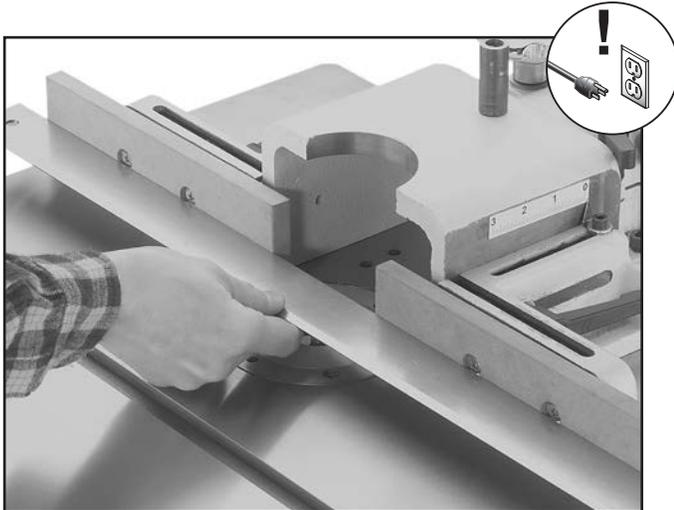

Figure 71. Example of aligning fence boards.
3. Set both fences to 0" by turning micro-adjustment knobs fully counterclockwise, lock them, then place straightedge against both fence faces, as shown in **Figure 71**.